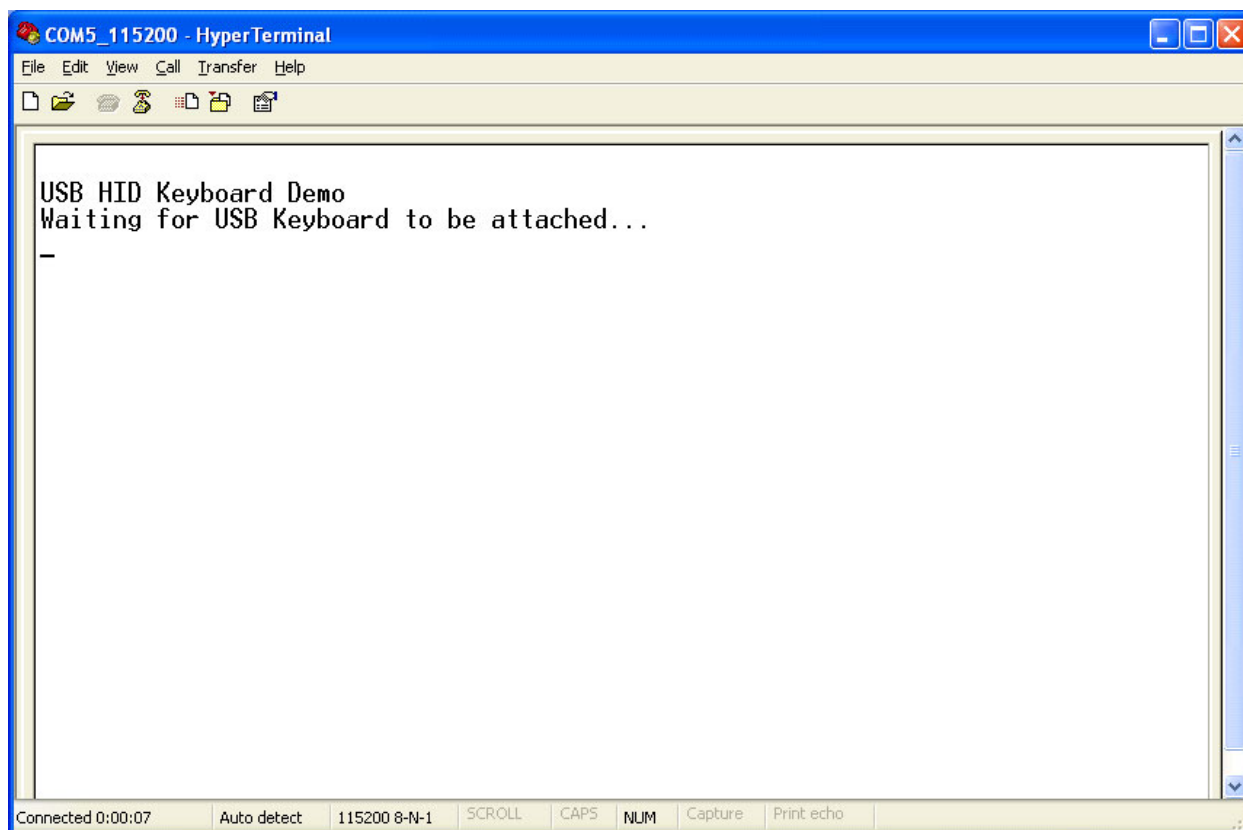

Figure B-6. The USB Host is waiting the keyboard attachment event
2. Run the demo. First, the USB Host waits for the device attachment event. The HyperTerminal displays a message as shown in Figure B-6: